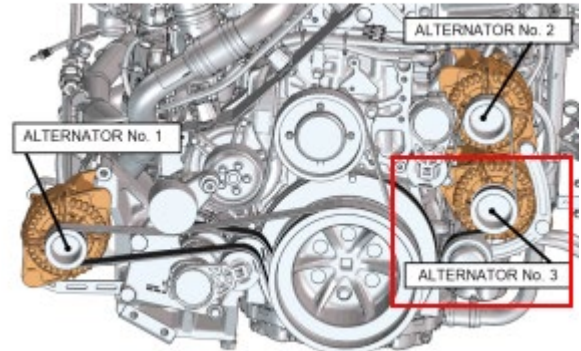

Figure 13: Lower RH alternator VISUAL INSPECTION ONLY
12. **Do not** repeat this procedure for the lower RH alternator (Figure 13).